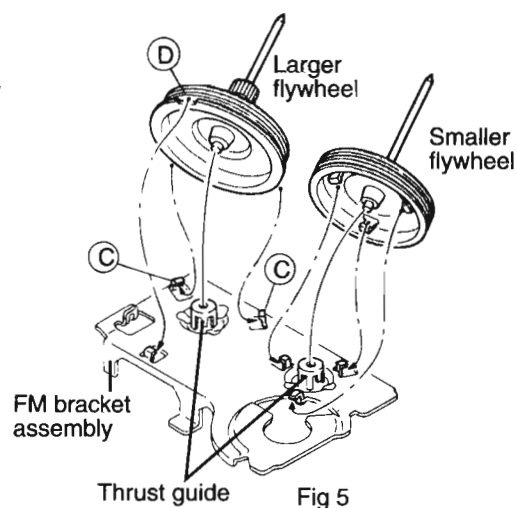

Fig 5
1. First of all, attach the larger flywheel to slide guide of the FM bracket assembly as shown in Fig 5.